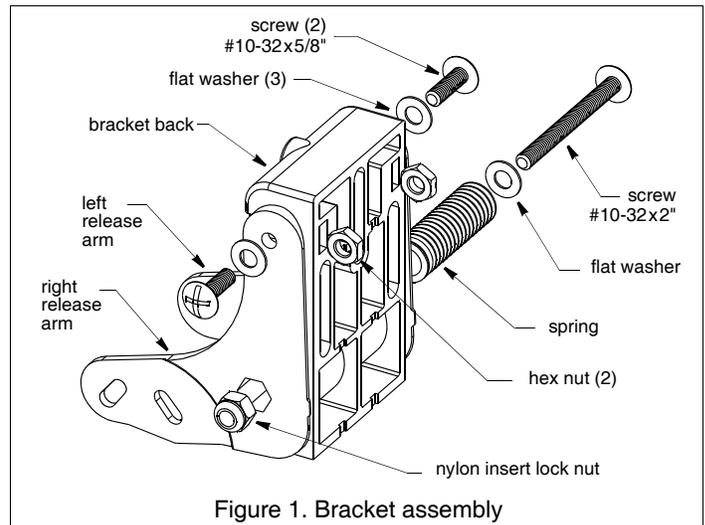

Figure 1. Bracket assembly
1. Attach the left release arm to the bracket back by first inserting a hex nut into the recess in the back of the bracket. Place the arm firmly against the bracket back and insert a #10-32x5/8" screw with a flat washer through the holes. Tighten it in place (see Figure 1). Repeat this procedure with the right release arm.